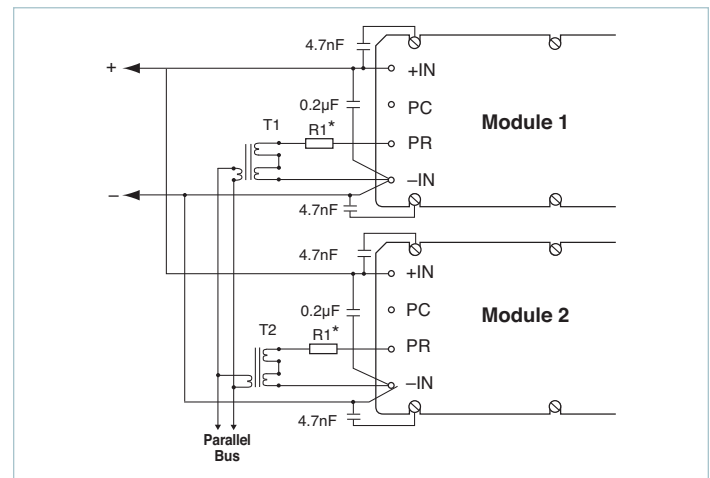

Figure 2.8 — Transformer-coupled interface
2. **Transformer-coupled interface:** Modules or arrays of modules may also be interfaced to share a load while providing galvanic isolation between PR pins via a transformer-coupled interface. For large arrays, buffering may be required. The power source for the buffer circuit may be derived from the PC pins. For arrays of four or more modules, the transformer-coupled interface is recommended. (Figure 2.8)
Some applications require physical separation of paralleled modules on different boards and / or input power from separate sources. For applications using separate sources, please refer to the “Hot-Swap Capability Eliminates Downtime” application note on the Vicor website. In these cases, transformer coupling of the PR signal, per Figure 2.8, is required to prevent inter-module common-mode noise from interfering with the sync-pulse transmission. High-speed buffering may be required with large arrays or if the distance between modules is greater than a few inches. This is due to the fact that all modules, except the one that’s talking, are in the listening mode. Each listener presents a load to the parent (talker), which is approximately 500Ω shunted by 30pF capacitance. Long leads for the interconnection introduce losses and parasitic reactance on the bus, which can attenuate and distort the sync-pulse signal. The bandwidth of the PR bus must